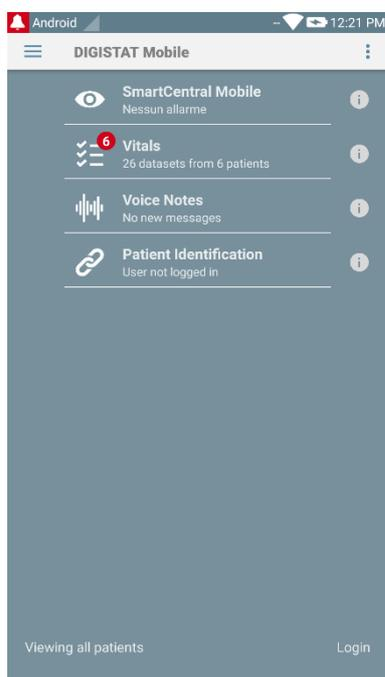
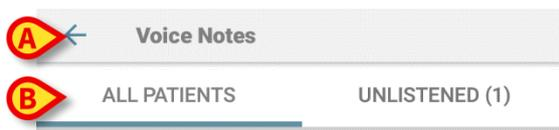

Fig 83
Fig 89
- Touch the corresponding row on the handheld device screen (Fig 83).
Fig 89 shows the heading of the patient list screen.
Touch the left arrow indicated in Fig 89 A to exit the module and display the handheld device screen (Fig 83). Use the filter indicated in Fig 89 B to display either all the patients configured on the handheld device domain (**All Patients** or **My Patients**, according to the current mode) or only the patients for which there are unlistened voice messages (**Unlistened**) for the current logged user.